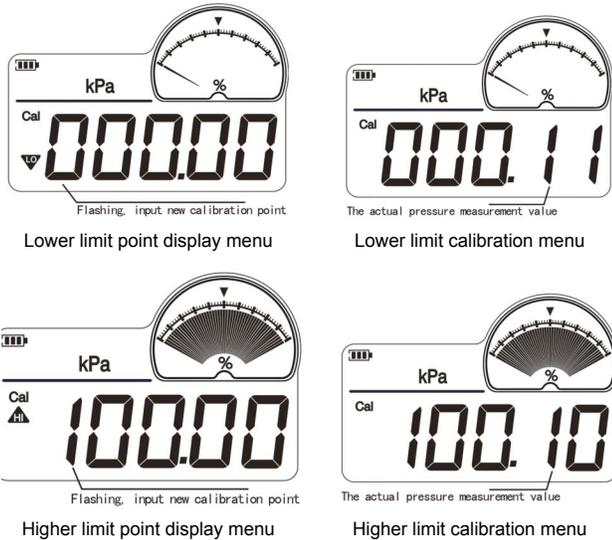

Figure 5: Limits
- Select **1.CAL** and press **zero** button to display the calibration value of lower limit, as Figure 5. If you need to modify this calibration value, please input the desired value. Otherwise, please press **zero** button to confirm.